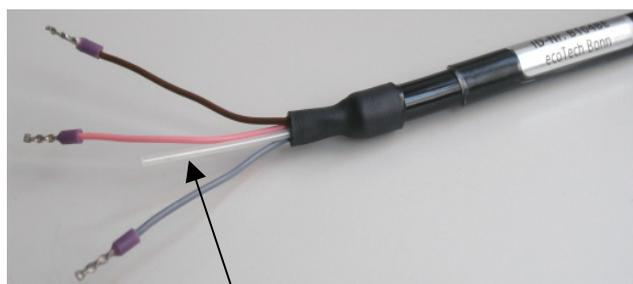

*Fig. 6:
- E. The shrink-wrapped filter in the cable (Fig. 6, chap. 5.1.3) has to be housed dryly and must not be touched, soiled or blocked mechanically.**